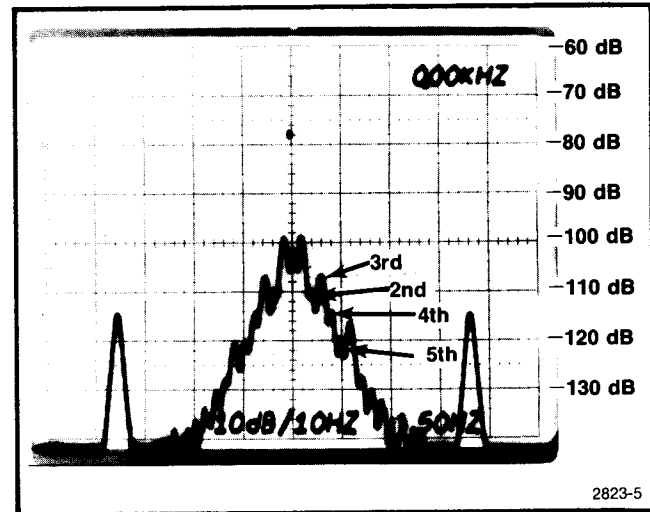

Fig. 4-2. 10 Hz harmonic distortion display.
g. Note the 2nd, 3rd, 4th, and 5th harmonics on the displayed waveform (see Fig. 4-2). If the harmonic amplitudes on either side of the 0 Hz are slightly different, average the two readings for each harmonic.
h. For example, using the harmonic distortion levels in Fig. 4-2 and the corrections factors in the previous formula:
Add the calibration fixture correction factors to the harmonic distortion levels noted in step 9 part g. For example, using the harmonic distortion levels in Fig. 4-2 and the calibration fixture correction factors for 10 Hz Notch Frequency.